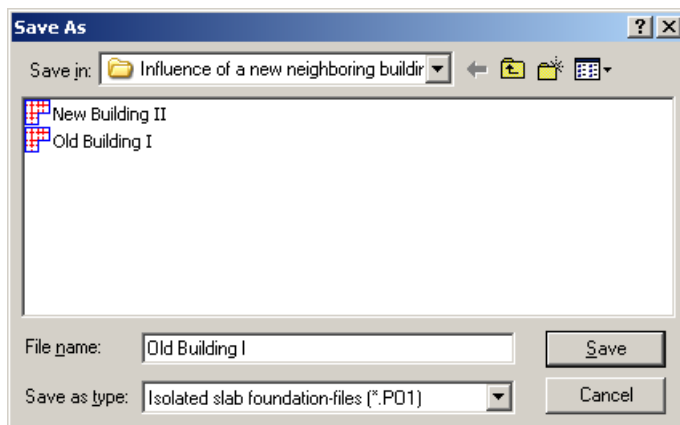

Figure 9-30 "Save as" dialog box
- Choose "Save project as" command from "File" menu of *ELPLA-Data*. The following "Save as" dialog box appears, Figure 9-30